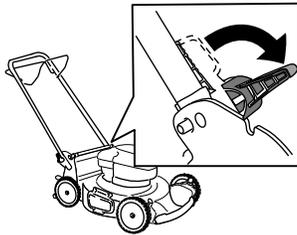

Figure 20
3. Disengage the handle locks (Figure 20).